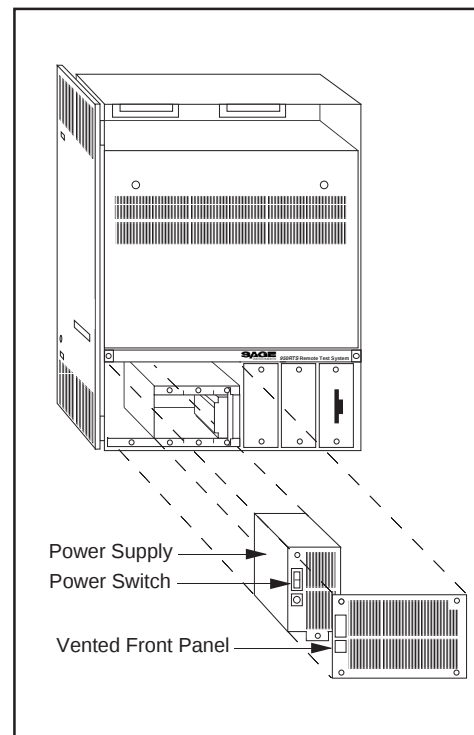

Figure 2-3
1. Remove the vented front panel at the bottom left front of the unit by removing the four captive screws. (Refer to **Figure 2-3**)